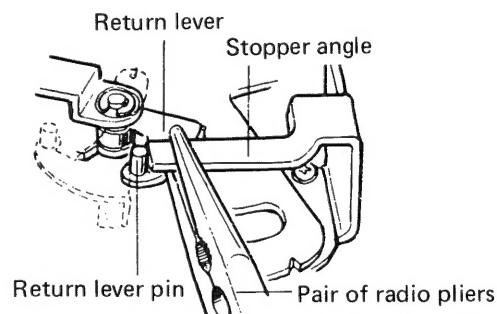

Fig. 3
1. Adjust the stopper angle so that it makes contact with the return lever pin (Fig. 3).